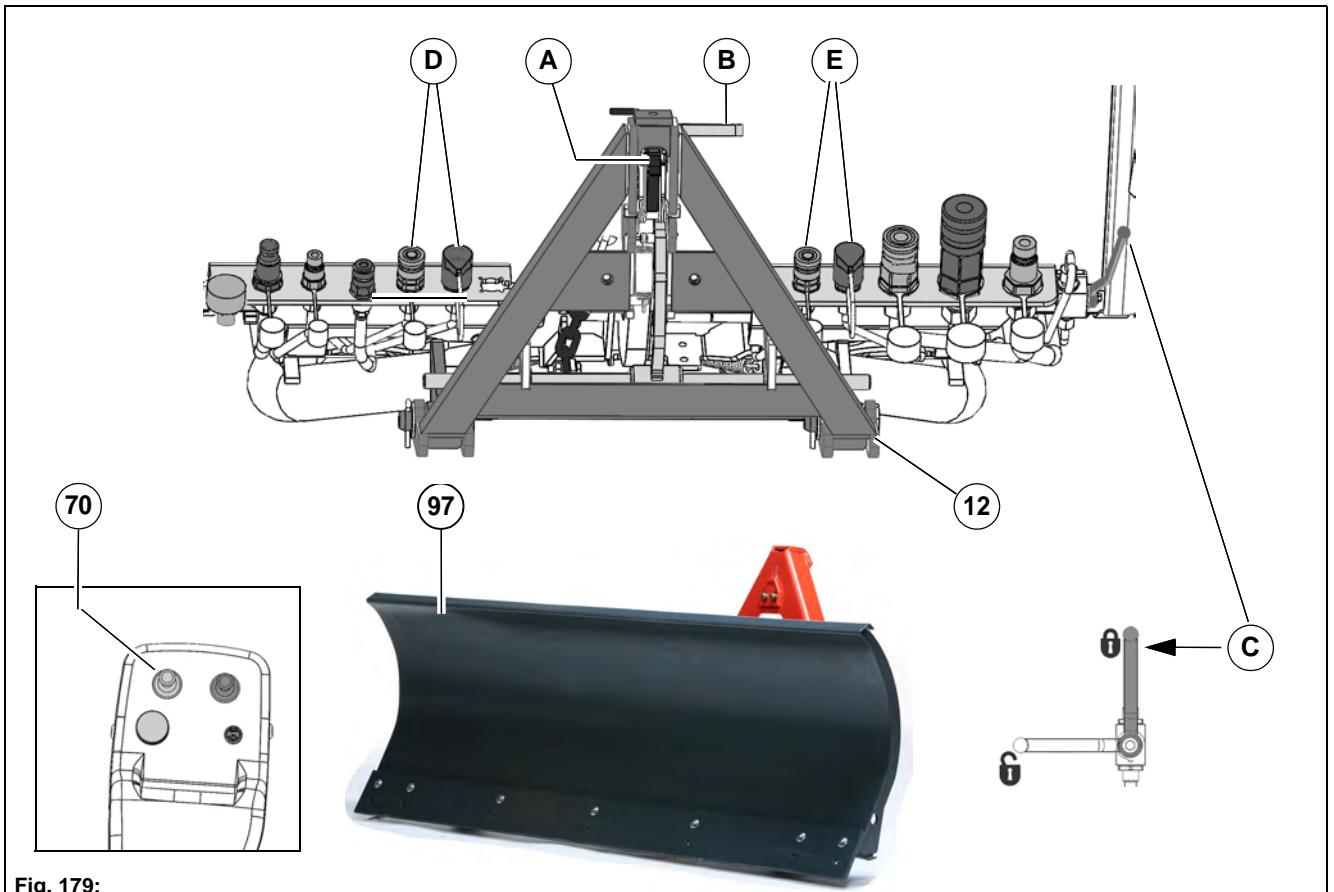

Fig. 179:
- 2 Unlock the locking hook **Fig. 179-A** and locking rod **Fig. 179-B** on the front tool carrier **Fig. 179-12**.
- 6 Close the valve **Fig. 179-C** for raising the suction mouth in the raised position!
- Swivel snow blade – supply = **Fig. 179-D**
- Swivel snow blade – return = **Fig. 179-E**